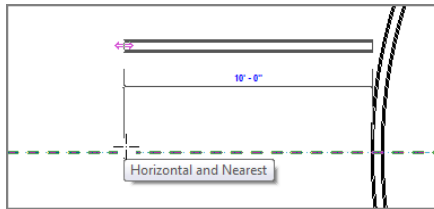

FIGURE 2.34: Drawing corridor walls using an offset can be a great timesaver.
5. To start placing the wall, pick the intersection or endpoint of the center reference plane and the radial wall, as shown in Figure 2.34.
6. Move your cursor to the left. Notice that the wall is being drawn, but at an offset of 4'-0" (1200mm) from the "line" you're drawing up the middle of the building (if it's in the opposite direction from what's shown in Figure 2.34, tap the spacebar to flip it).